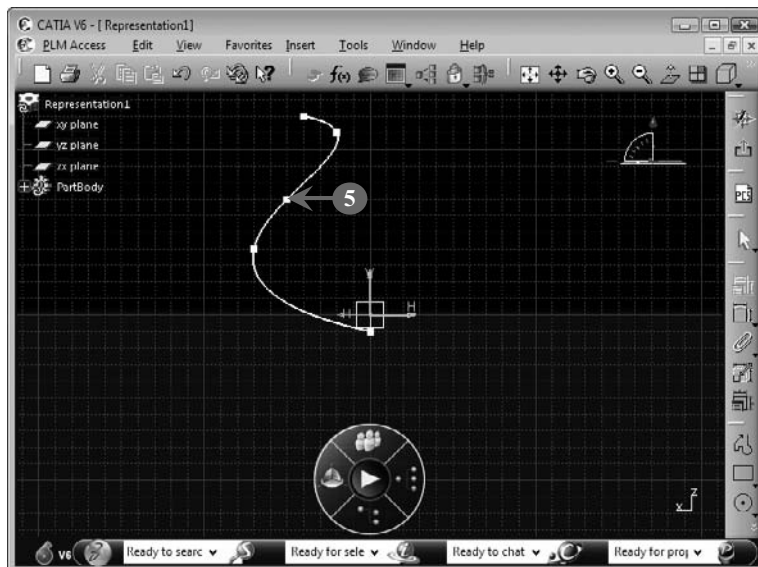

FIGURE 5.33
5. Draw a spline, which works as the profile to be revolved, as shown in Figure 5.33: